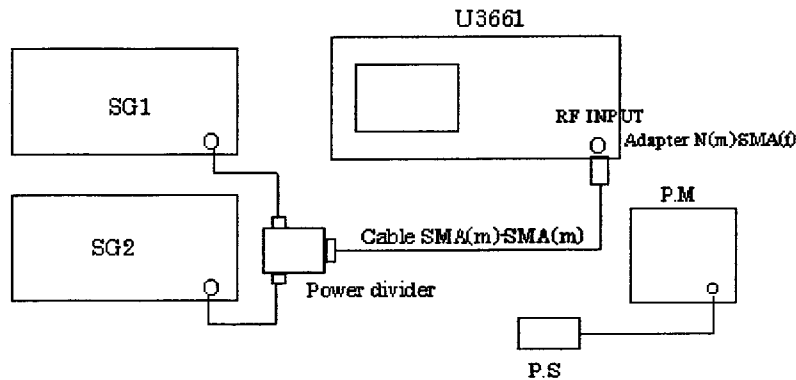

Figure 3-17 Setup of Third Order Intermodulation Test
9. Remove P.S from divider, and then connect U3661 input as shown Figure 3-17.